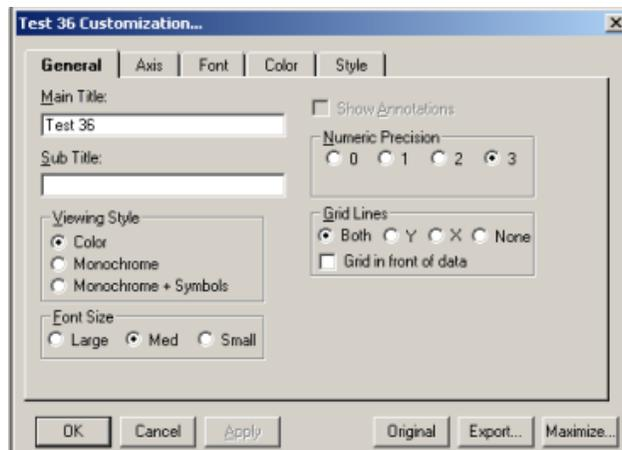

Figure 46 Customization Dialog Box—General Tab
3. Double-click anywhere within the graph to display the **Customization** dialog box. See Figure 46. Notice across the dialog box are five tabs: General, Axis, Font, Color, and Style. Also notice that there are six buttons along the bottom of the dialog box. They are the OK, Cancel, Apply, Original, Export, and Maximize buttons.
- **General Tab**—Use this tab to define general parameters. See Figure 46.